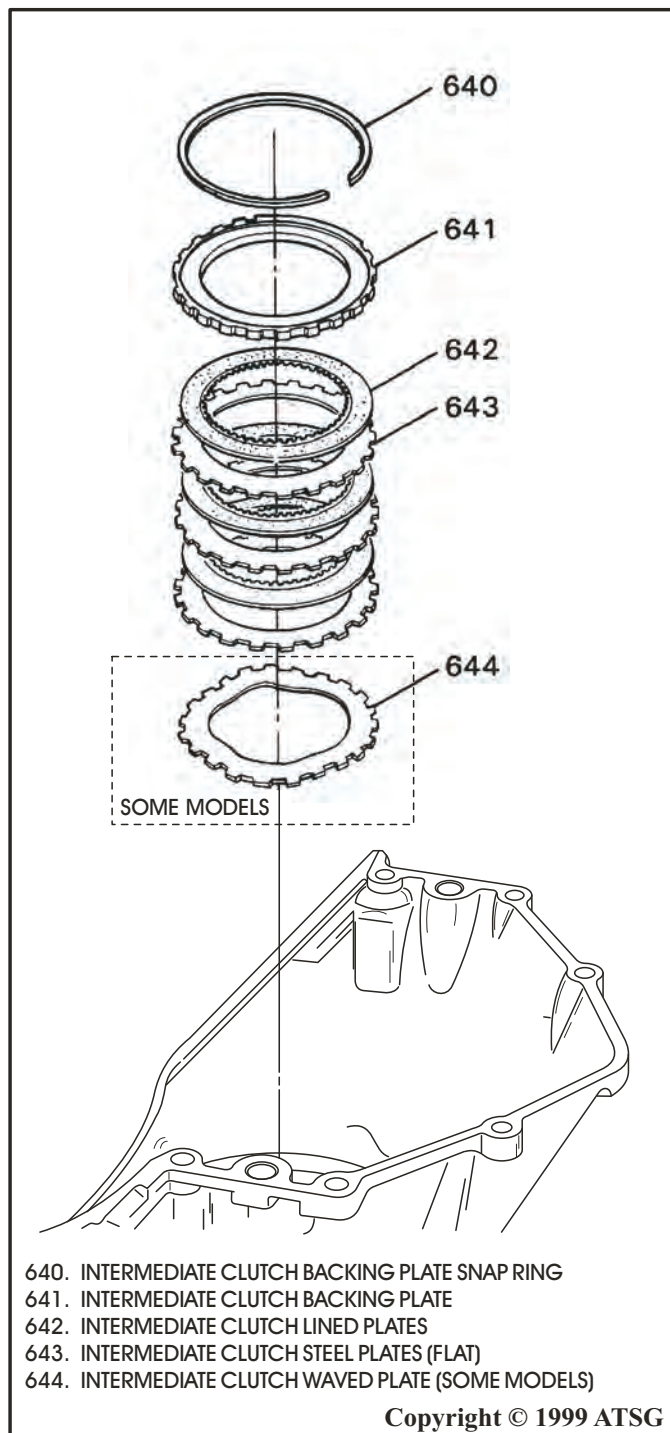

Figure 49
52. Remove the intermediate clutch backing plate snap ring from the groove in case using large screwdriver (See Figure 49).
53. Remove the intermediate clutch backing plate from the case (See Figure 49).
54. Remove the intermediate clutch plates both lined and steel (See Figure 49).
55. Remove the intermediate clutch waved plate, if it is present. The waved plate is used only on some models (See Figure 49).